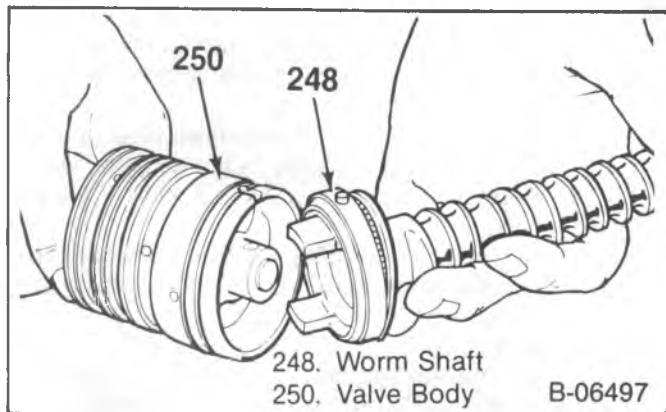

Figure 9—Separating the Wormshaft from the Valve Assembly
14. Valve (250) and wormshaft (248) as an assembly, with both races (246) and bearing (247).
- Wormshaft (248) from valve assembly (figure 9).
- Races (246) and bearing (247) from the worm-shaft (248).
- Seal (249).